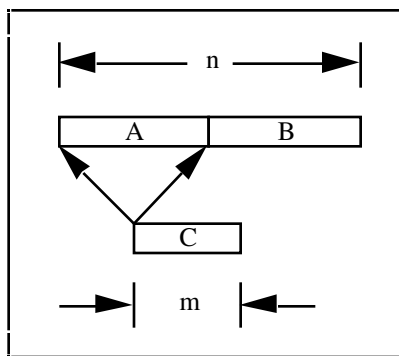

Figure 10-4. Waveform Master Buffer Scheme
In order to generate waveforms using the double-buffered mode, you must create two different buffers for every channel included in the group. One buffer, the buffer loaded during the initial call to WF\_DBLoad, is called the master buffer, and the handler divides it into two equal halves called buffer A and buffer B, as shown in Figure 10-4 under the description of WF\_DBLoad. The other buffer will be used as an intermediate buffer and will hold new data until that data has been copied into the next available half of the master buffer.
**timeout** specifies, in ticks, the maximum amount of time to wait before returning from the load call; there are 60 ticks in each second. This variable is of significance only if you are using double buffering. Figure 10-4 shows how new buffers are copied into the master buffer, which affects **timeout**.